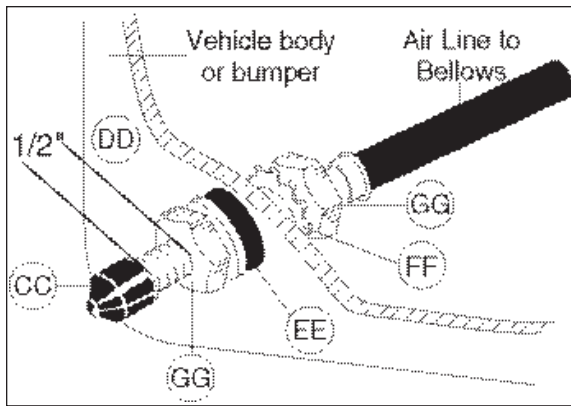

Figure 5
4. Place a $\frac{5}{16}$ " nut (GG) and a star washer (FF) on the air valve. Leave enough of the inflation valve in front of the nut to extend through the hole and have room for the rubber washer (EE), flat washer (DD), and $\frac{5}{16}$ " nut (GG) and cap (CC). There should be enough valve exposed after installation - approximately $\frac{1}{2}$ " - to easily apply a pressure gauge or an air chuck (Figure 5).
5. Push the inflation valve through the hole and use the rubber washer (EE), flat washer (DD), and another $\frac{5}{16}$ " nut (GG) to secure it in place. Tighten the nuts to secure the assembly in place (Figure 5).